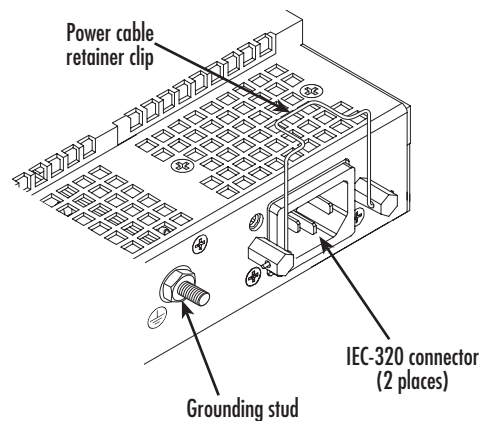

Figure 11. IEC-320 connector and grounding stud locations
2. Install the grounding wire between the grounding stud (see figure 11) and the grounding source.
1. Install the power cable into an IEC-320 connector (see figure 11 on page 32). The AC mains socket outlet shall be within 1 foot (3 meters) of the equipment and shall be easily accessible.